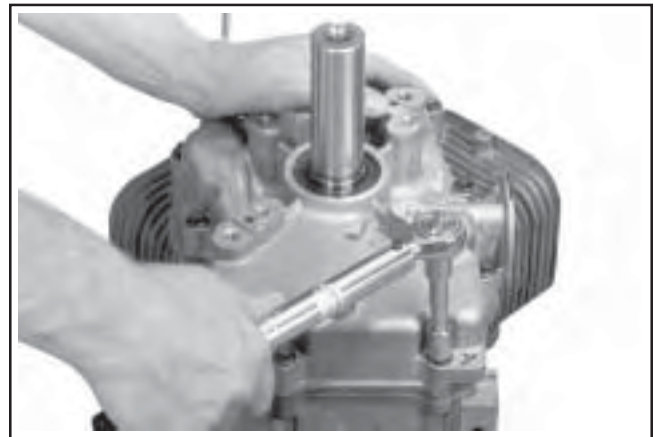

**Figure 11-20. Using Spanner Wrench to Turn Crankshaft.**
5. Install the closure plate to the crankcase. Carefully seat the camshaft and the crankshaft into their mating bearings. Rotate the crankshaft slightly to help engage the oil pump and governor gear meshes. See Figure 11-20.